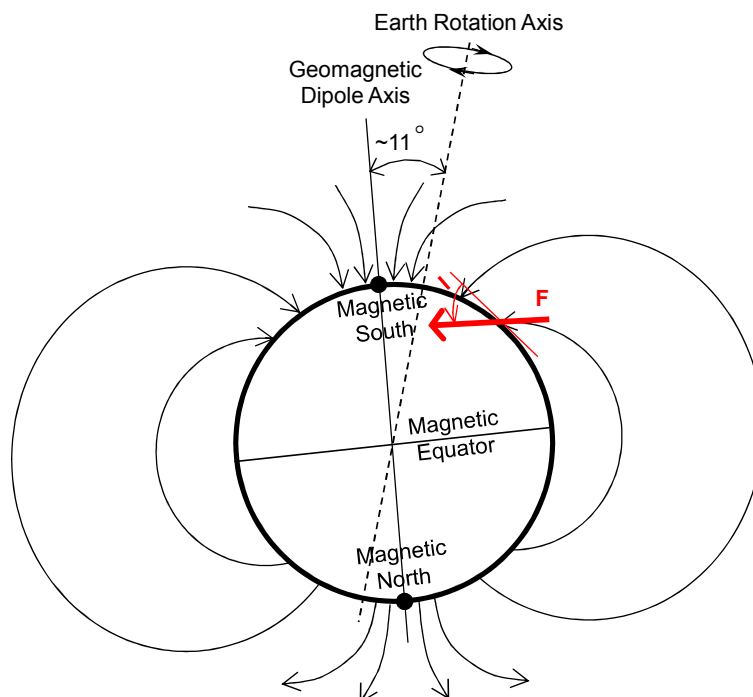

Figure 1 : Geomagnetic Field from the Earth Dipole Magnet
The geomagnetic field is the magnetic field created by the earth, which acts like a great spherical magnet. In general such earth magnet can be viewed as a dipole magnet located at the center of the earth, with the S magnetic pole near the North Pole and N magnetic pole near the South Pole. Because the axis of the dipole is offset from the axis of the earth's rotation by about 11 degrees, the north and south magnetic poles are slightly different from those geographic poles, as shown in the Figure 1.
2. Inclination (I): measured in units of degrees. Magnetic inclination is the angle between the horizontal plane and the total geomagnetic field vector, measured positive into earth, Figure 1.
5. Total Intensity (F): the magnitude of the total geomagnetic field, Figure 1 and 2.